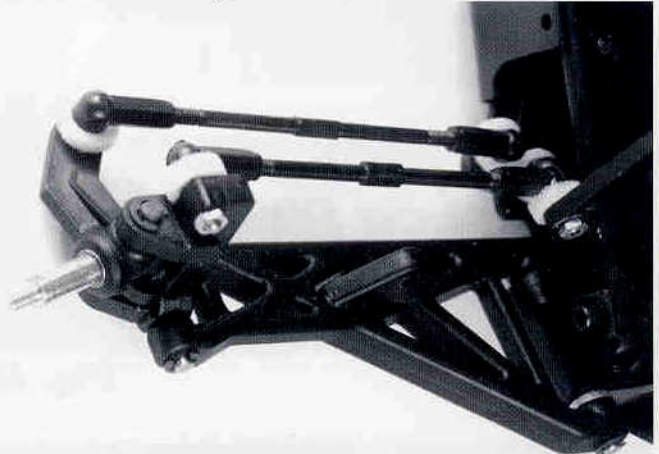

Fig. 38
□ **Fig. 38** Using your needle nose pliers install both of the longer steering turnbuckles onto the servo saver ball ends and the steering arm ball ends.